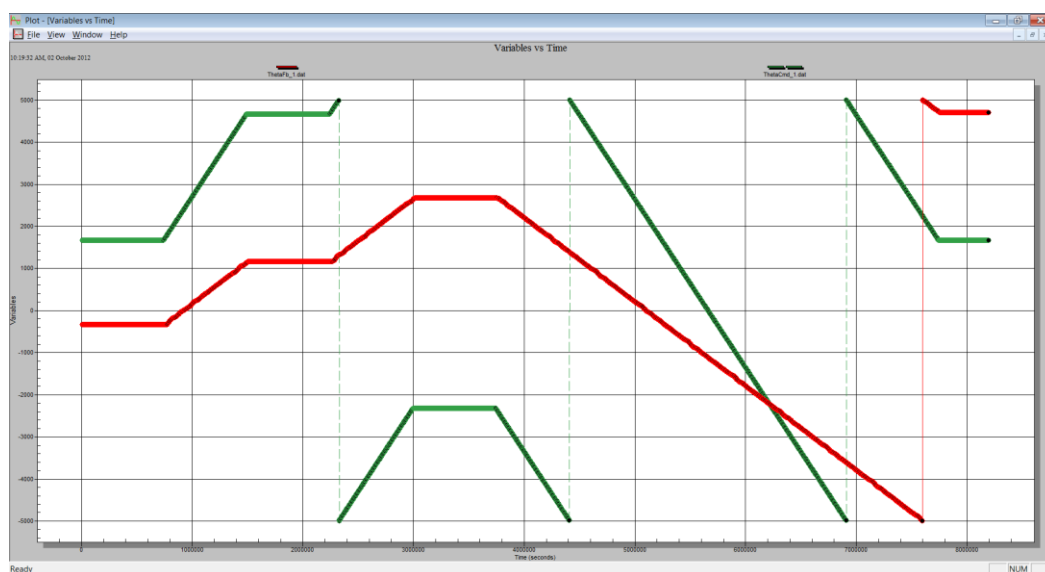

Figure 10-8 ThetaFb does not correctly follow ThetaCmd. Likely cause: incorrect number of motor poles (IDN 32774) and/or incorrect encoder resolution (IDN 116).
- Incorrect motor poles IDN 32774 or/and incorrect encoder resolution IDN 116 ( Figure 10-8), or/and